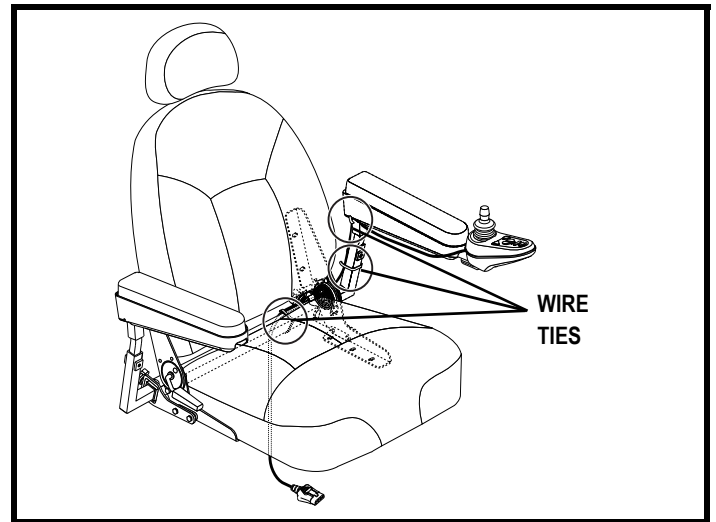

Figure 18. Select 6 With Power Seat Controller Cable Routing
5. Lift the armrest straight up, then route the controller harness and secure with wire ties as shown in figure 18.